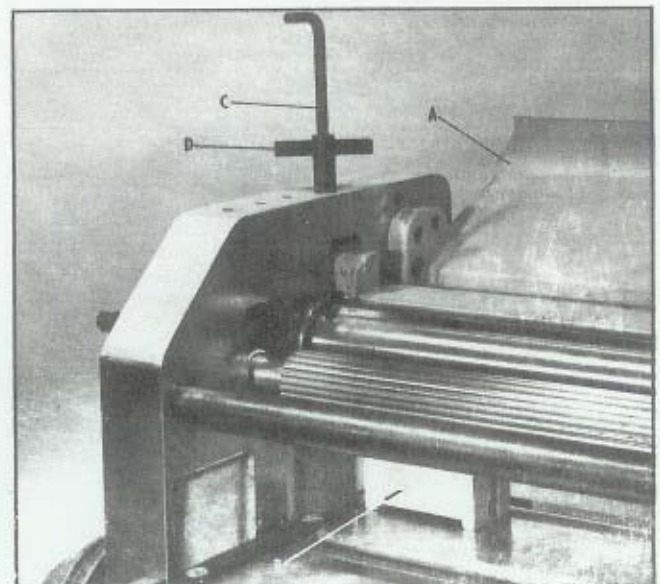

Fig. 13.
3. The chipbreaker and cutterhead guard (A) can now be swung up towards the rear of the planer as shown in Fig. 13.
4. Place the gage block (B) Fig. 13, directly under the pressure bar at each end. REMEMBER WE CAUTIONED YOU NOT TO RAISE OR LOWER THE TABLE AFTER LEVELING THE TABLE.
5. If the pressure bar must be raised or lowered at either end, loosen the socket head screw using the 5/16" hex wrench (C) Fig. 13, and turn the special adjusting screw the required amount, using the special wrench (D), until the pressure bar just touches the gage block.
7. After pressure bar is adjusted, tighten socket head screw with wrench (C) making sure the adjusting screw is not disturbed by holding it securely with wrench (D) Fig. 13. DO NOT RAISE OR LOWER THE TABLE AS IT MUST REMAIN AT THIS SETTING FOR FURTHER ADJUSTMENT.